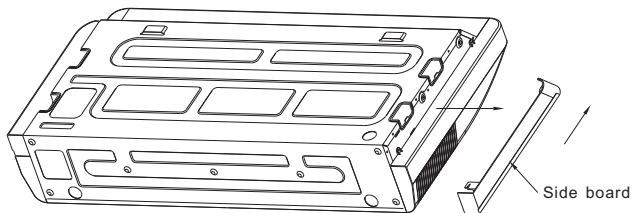

Fig14
- Remove the side board. (Refer to Fig14)